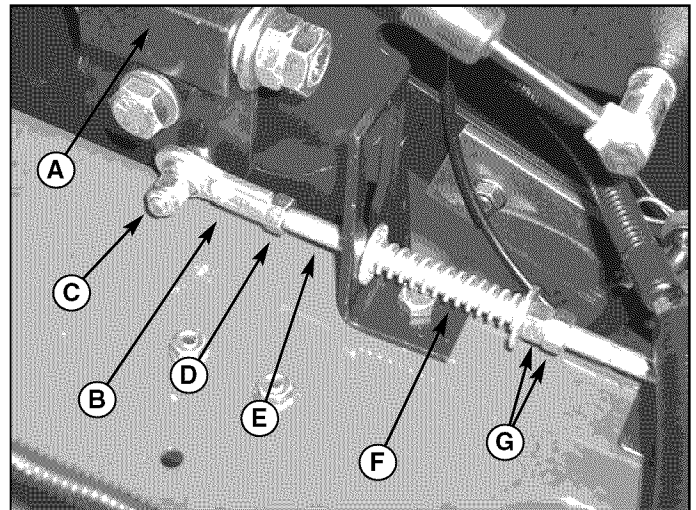

Figure 23. Neutral Adjustment
3. Remove the hardware (C, Figure 23) connecting the rod end (B) to the control bracket weldment (A).